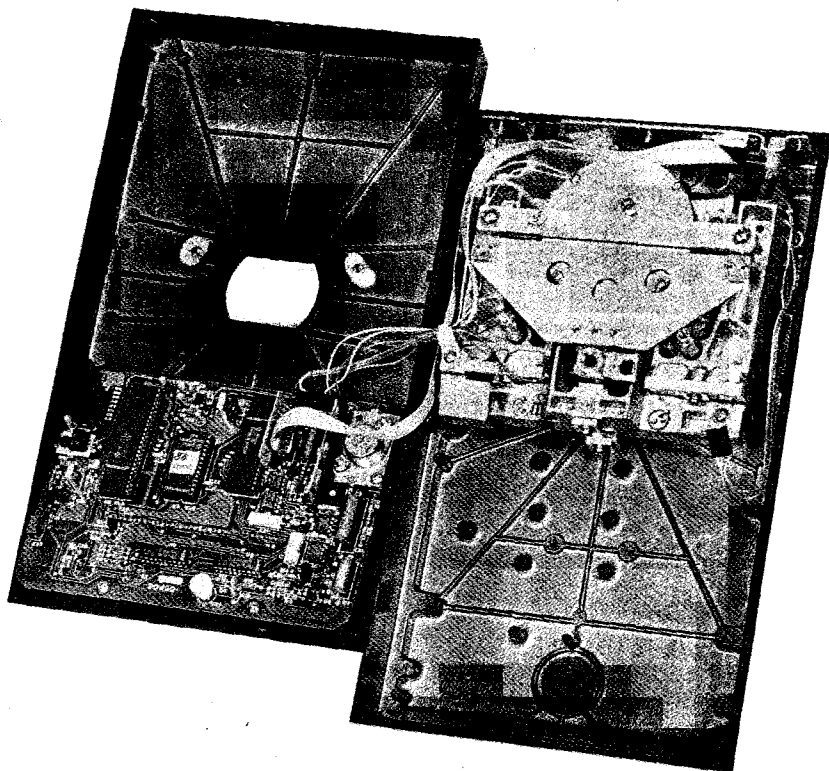

FIGURE 1
2. Remove the two (2) SCREWS and WASHERS and set them aside to use again.
4. Disengage the PLUG and then lay the cover over on its side, as shown in Figure 1.
8. Route the INTERCONNECTING CABLE along the REAR and LEFT SIDE WALLS, as shown in Figure 1.